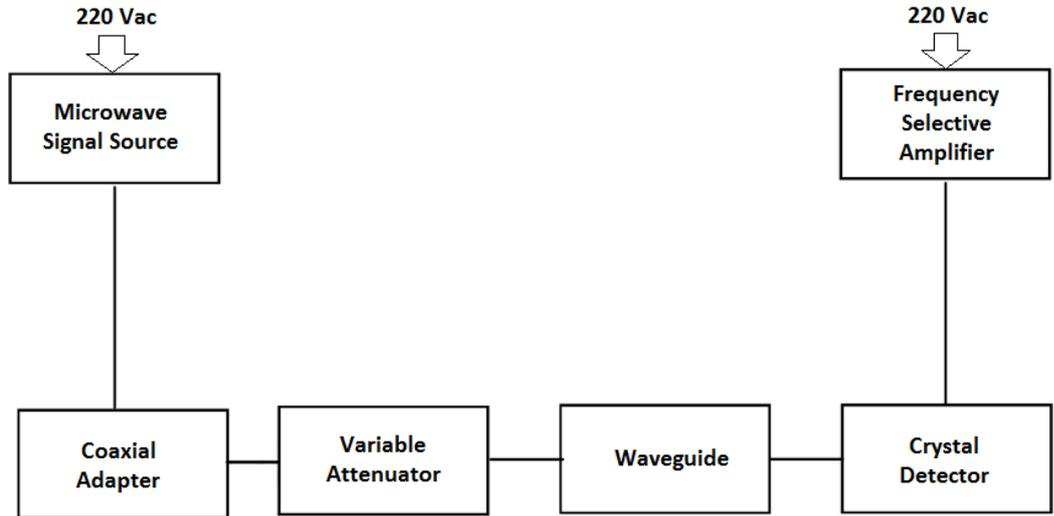

Figure 4.7.4. Initial setup for coupling factor measurement.
- (1) Set up the equipment as shown in Figure 4.7.4 and/or Figure 4.7.5. Set the Variable Attenuator to 20. Turn ON the Microwave Signal Source and set the Modulation Mode at 1 kHz modulation signal. Read the SWR indicator.